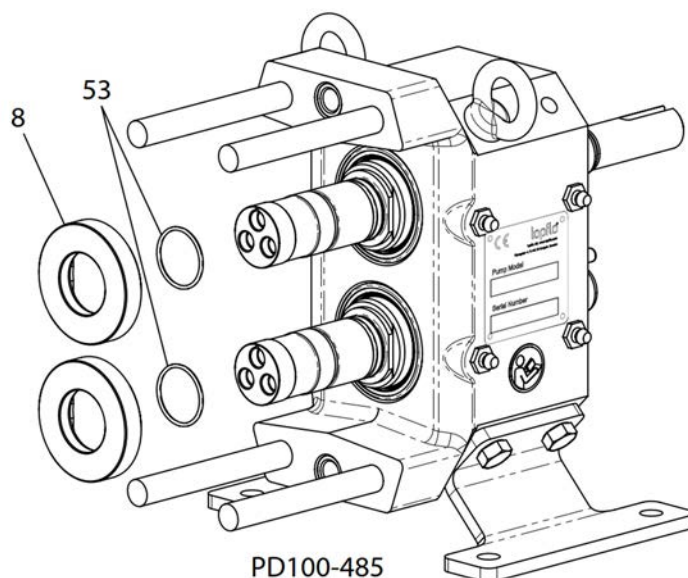

Fig. 34: Remove seal seats
1. Remove the seal seats (Figure 34, item 8) from the shafts. Take care to prevent damage to the seats or shafts.
2. Remove and inspect the O-rings (item 53).